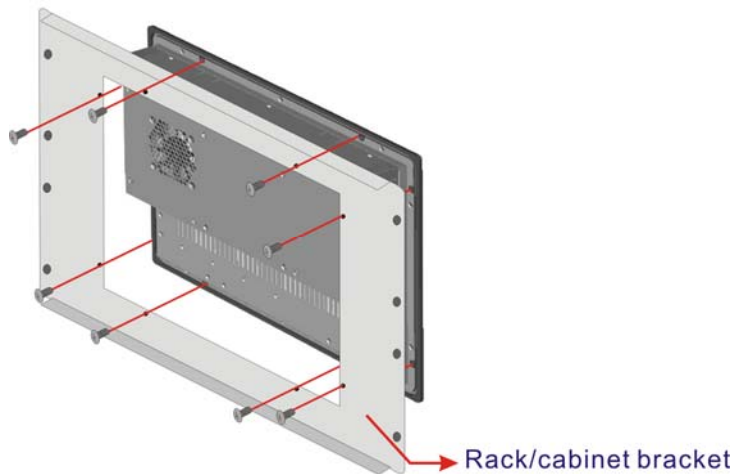

Figure 3-35: Securing the Rack/Cabinet Bracket
- Step 4:** Secure the rack/cabinet bracket to the panel PC by inserting the retention screws (**Figure 3-35**).